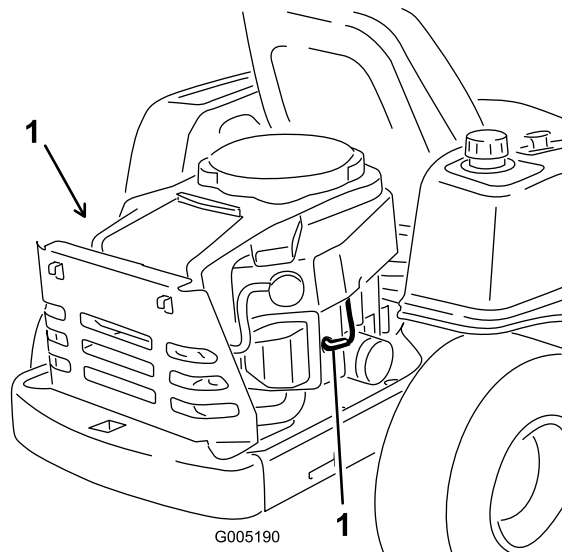

Figure 29
Pull the wire off of the spark plug(s) (Figure 29).
3. Push the wire onto the spark plug (Figure 29).